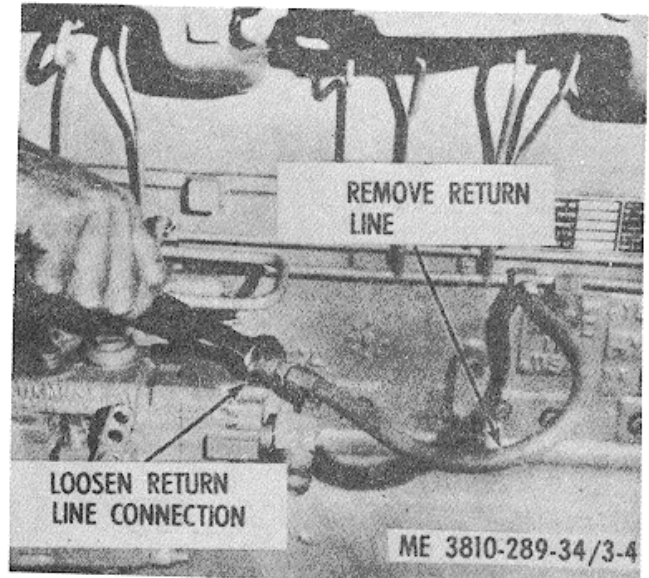

Figure 3-4. Fuel pump return line removal.
(1) Remove pump fuel return line (fig. 3-4).